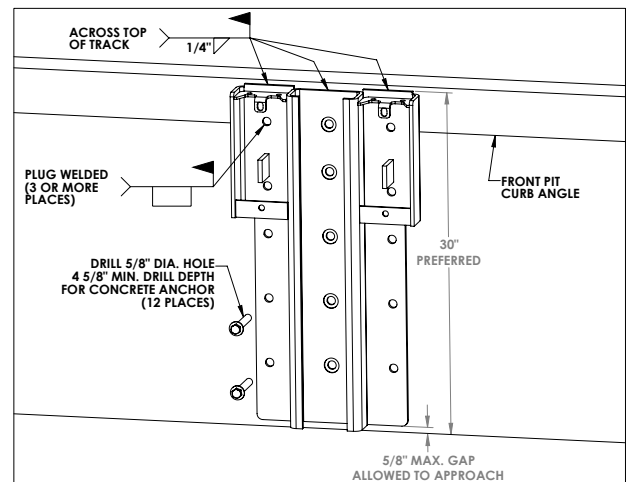

FIGURE 1.C—ANCHORING ROLLER TRACK
4. Install all anchors and torque to 60 ft-lbs. See Figure 1.C.